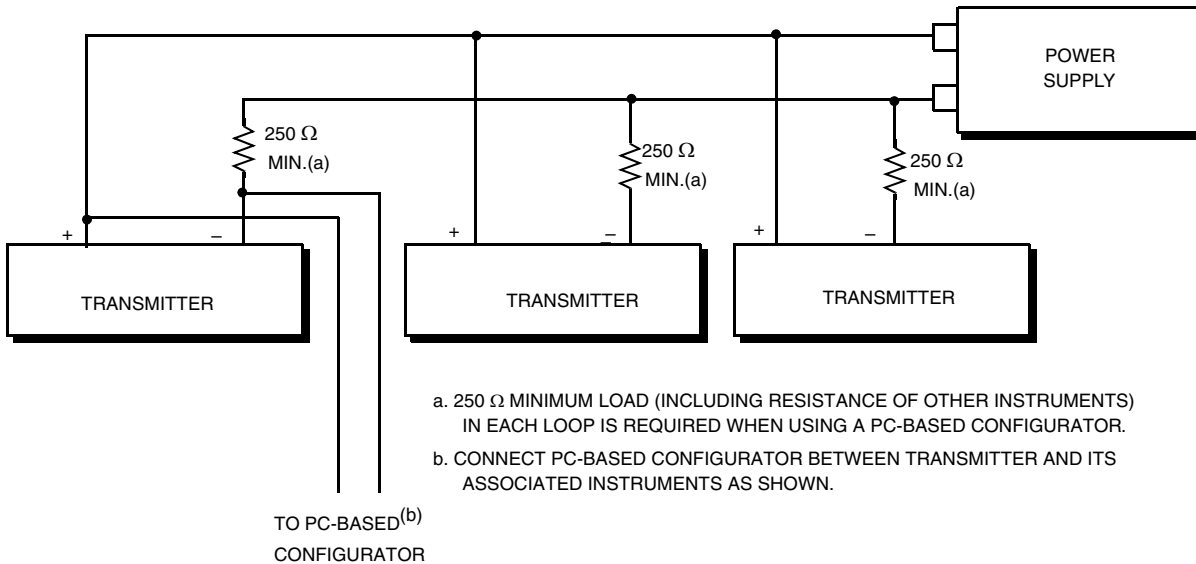

Figure 30. Wiring Several 4 to 20 mA Transmitters to a Common Power Supply
9. If wiring additional transmitters to the same power supply, repeat Steps 1 through 8 for each additional transmitter. The setup with multiple transmitters connected to a single power supply is shown in Figure 30.